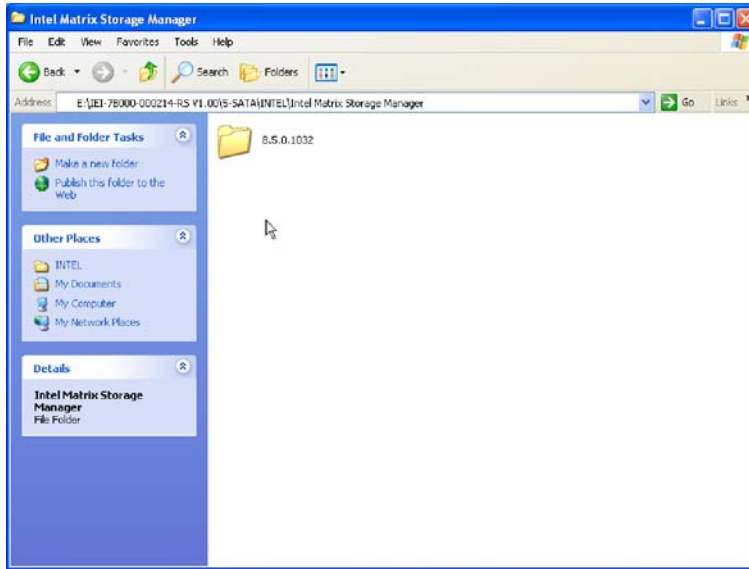

Figure 6-26: SATA RAID Driver Installation Program
Step 4: Double-click the **8.5.0.1032** folder in **Figure 6-26**